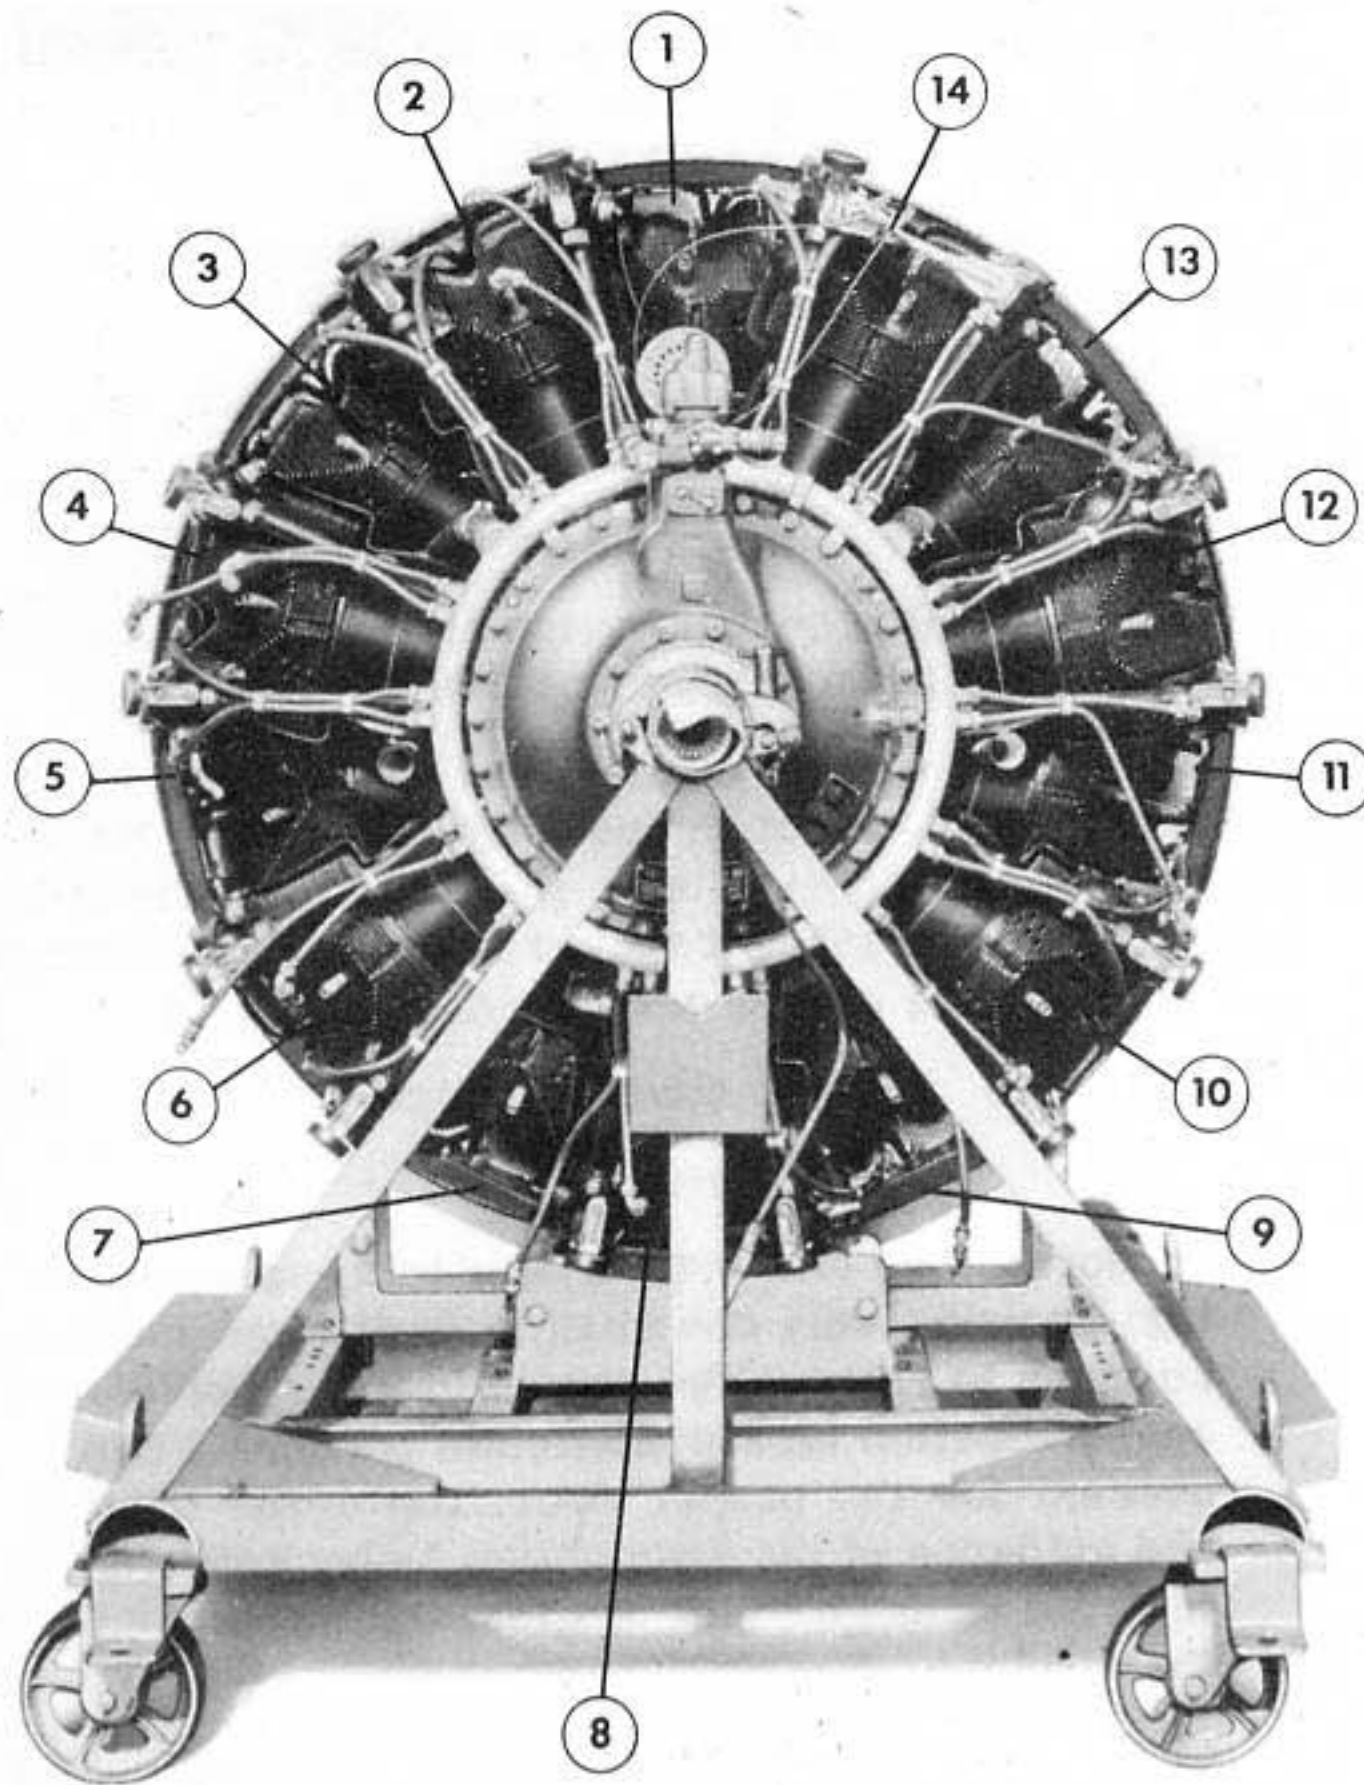

Figure 99 - CYLINDER NUMBERING SCHEME
g. Remove the sump to remove cylinders No. 7, 8, and 9. (See figure 99.)
adjustment of its valve clearance. Move the crankshaft back and forth until a position is obtained where the intake rocker arm of cylinder No. 10 (at the left of cylinder No. 12) is in the approximate midpoint of its opening stroke and the exhaust rocker arm of cylinder No. 14 (at the right of cylinder No. 12) is at the approximate midpoint of its closing stroke. (See figure 99.)
4. In a like manner, adjust the valve clearance of cylinders No. 6, 10, 14, 4, and 8 respectively. (See figure 99.)